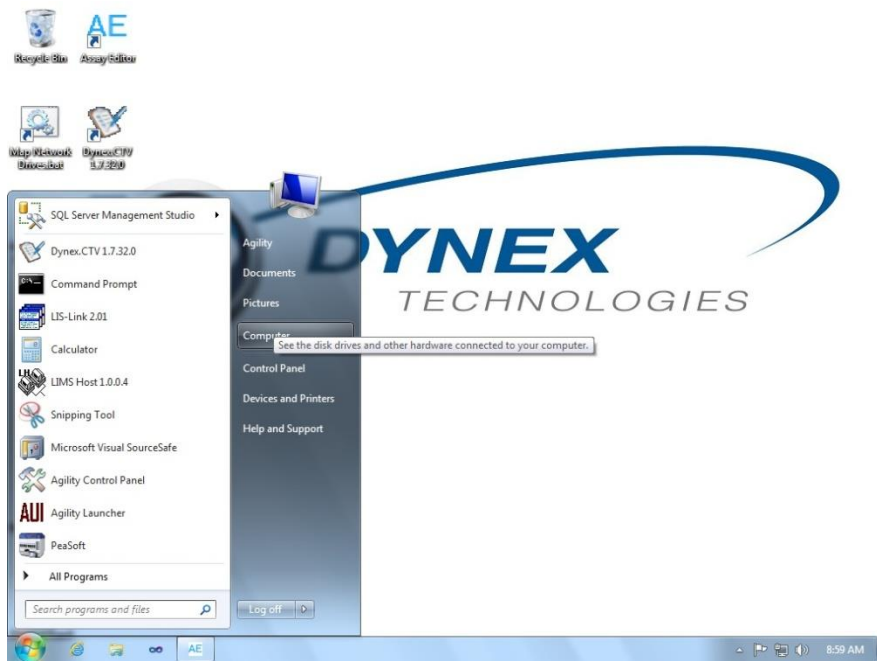
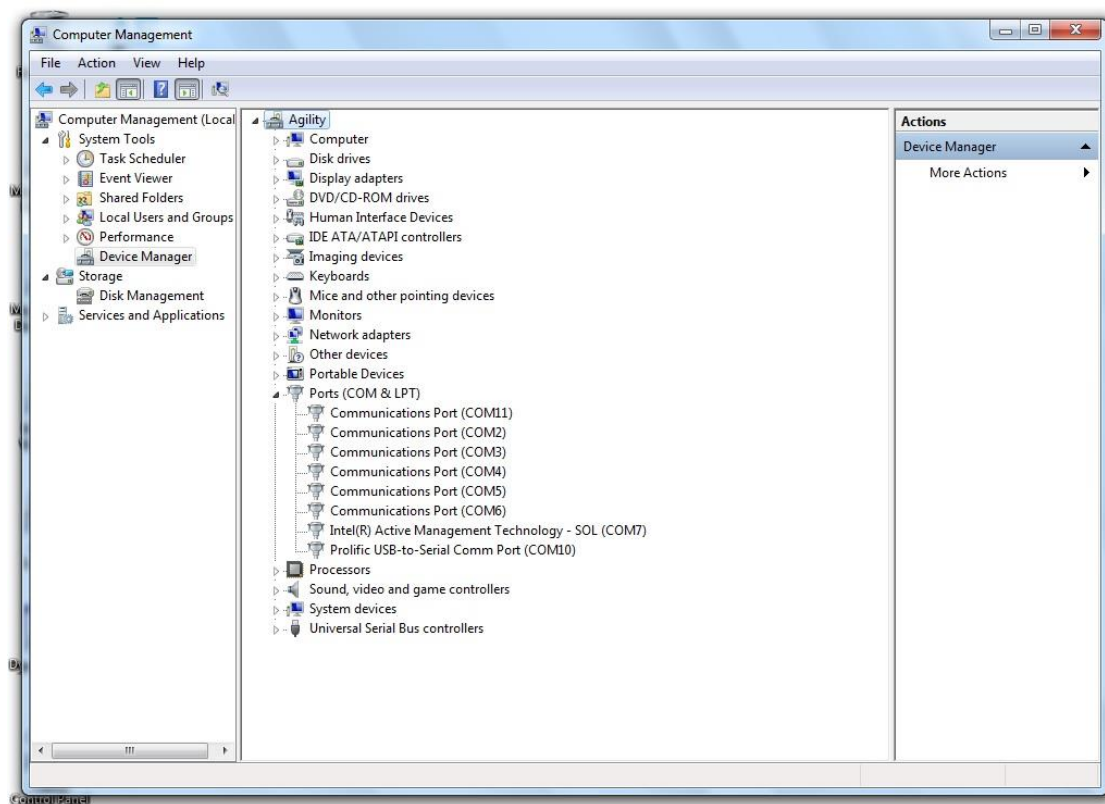

Figure 2-8: Computer Configuration
Figure 2-9: Device Manager
1. From the Windows Start screen (Figure 2-8), press the Start button, then right click on *Computer* to present the *Device Manager* screen (Figure 2-9).